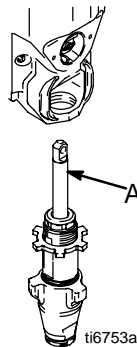

Fig. 8
1. Fig. 8. Extend pump piston rod fully. Apply grease to top of pump rod at (A) or inside connecting rod.